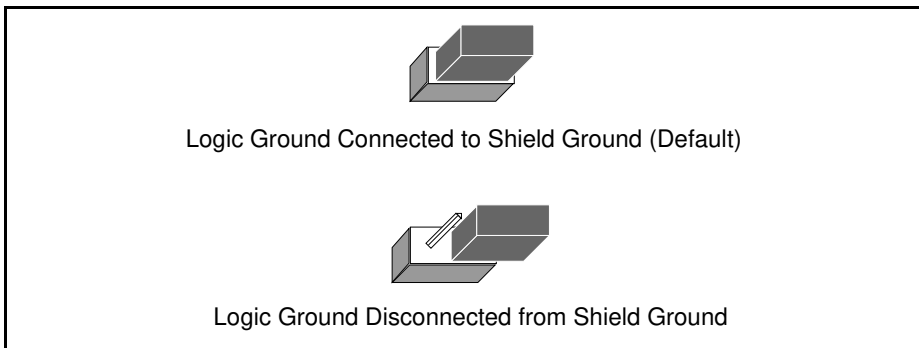

Figure 2-9. Ground Configuration Jumper Settings
2. Remove the jumper and place it across only one of the jumper pins, as shown in Figure 2-9.